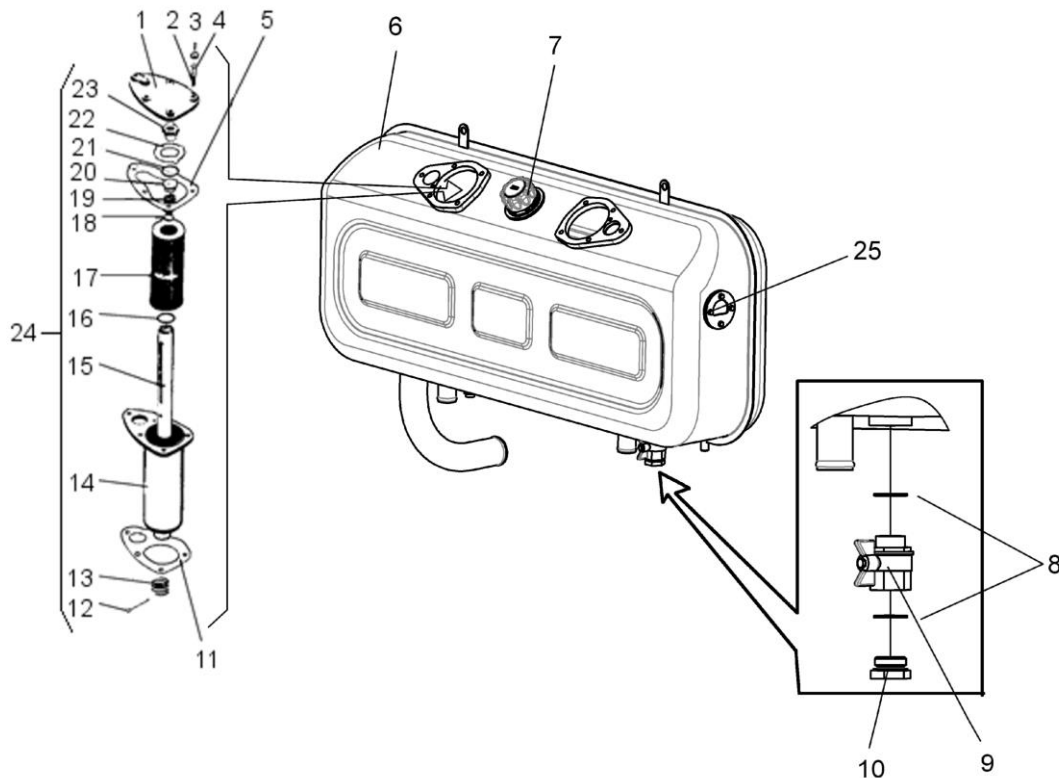

Fig.38 Hydraulic tank
Check the oil level in the hydraulic tank by the inspection window 25 (Fig.38), oil should be visible in the inspection window. Fill clean oil through the filter of filler port 7. When checking the oil level in the hydraulic tank, make sure of the absence of foam generation.
a) Under fastening nuts 3 (see Fig. 38) and take off cover 1.
1. Refill oil into the hydraulic tank through the oil filler port; in doing so the oil level shall reach the middle of the housing of filter 11 (Fig.38).